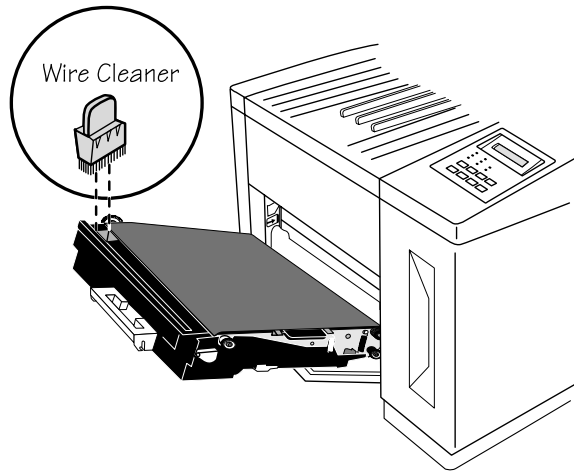

Fig. 6.11 *Remove the OPC Belt Cartridge*
Clean the charger unit whenever the print quality diminishes. To clean this unit you need several cotton cloths and swabs, and the wire cleaner located in the OPC belt tray (see figure 6.11 for location). To clean the charger unit
2. Lift the OPC belt cartridge handle up to unlock it, and pull the cartridge straight out of the printer (fig. 6.11).
3. Remove the wire cleaner from the cartridge (fig. 6.11).
Clean the pre-charger unit whenever the print quality diminishes. To clean this unit you need several cotton cloths and swabs, and the wire cleaner located in the OPC belt tray (see figure 6.11 for location).